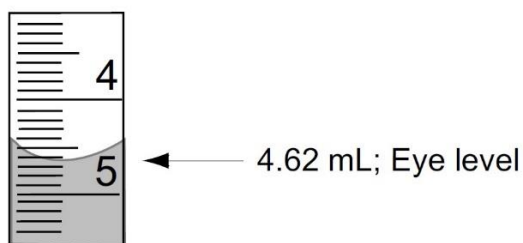

Figure 1. Reading a Buret
- 4. Reading the Buret:** You should always read the volume in a buret at the bottom of the meniscus viewed at eye level (see Figure 1). A black or white card held up behind the buret helps with making this reading. Burets are accurate to ± 0.02 mL and all readings should be recorded to two decimal places. Be sure to record both the starting and ending volumes when performing a titration. The difference is the volume delivered.